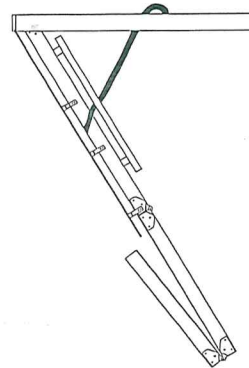

FIGURE 6
A. Carefully unfold ladder to the ground rotating bottom section behind middle section (figure 6). Press down on top and middle sections of the ladder to ensure the power arms are fully extended before taking measurements for trimming your ladder.